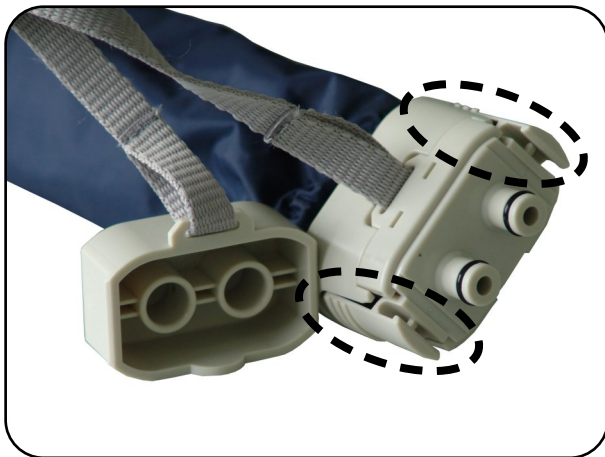
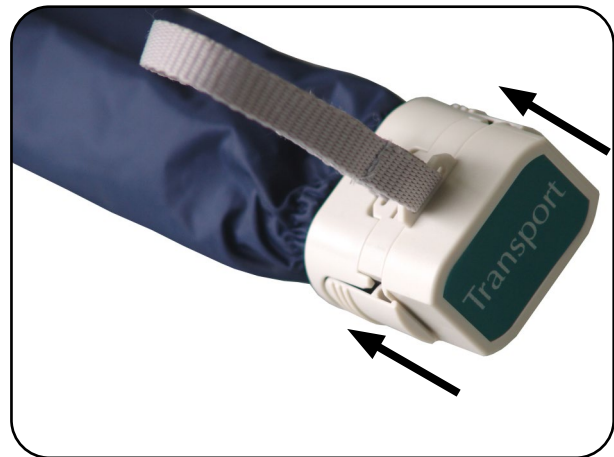

Fig. 8.5.01 – Connector plug exposed
Fig. 8.5.02 – Connector plug sealed
1. Disconnect the supply hose connectors from the pump unit by pressing the releasable lock (Fig. 8.5.01).
2. Immediately place the attached sealing cap on the connector, pushing it until it audibly engages (Fig. 8.5.01 and Fig. 8.5.02).
2. Disconnect the supply hose connectors from the pump unit by pressing the releasable lock (Fig. 8.5.01 and Fig. 8.8.01).
3. Immediately place the attached sealing cap on the connector, pushing it until it audibly engages (Fig. 8.5.01 and Fig. 8.5.02).
Supply hoses are not correctly attached to the pump unit	Attach the supply hoses to the pump unit until they audibly engage (Fig. 8.5.01 and Fig. 6.04)
Connector between supply hoses and pump unit is not completely inserted in the pump unit socket	Check the connection between the connector and the pump unit socket. The releasable locks must audibly engage (Fig. 8.5.01 and Fig. 6.04)